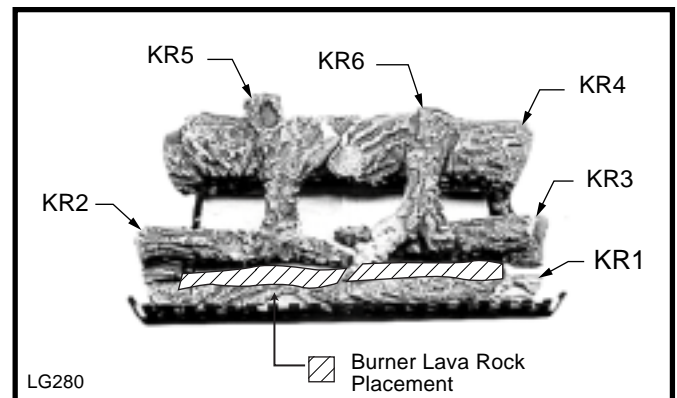

Fig. 32 RFSDV22/32 logs and burner lava rock placement.
RFSDV22, RFSDV32 (Fig. 32)
7. Place small lava rocks and ember material on top of burner. (See Fig. 32 for proper location).